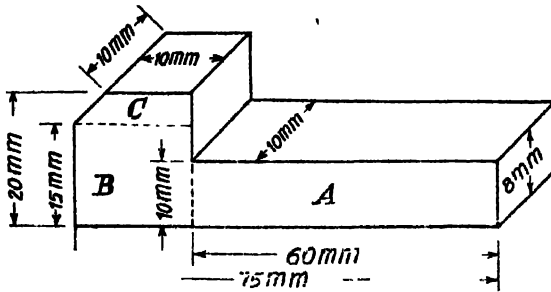

Fig. 8-6
7. It is required to make a key of dimensions given in Fig. 8.6 from a rod of 20 mm. dia. calculate the length of rod required in forging.